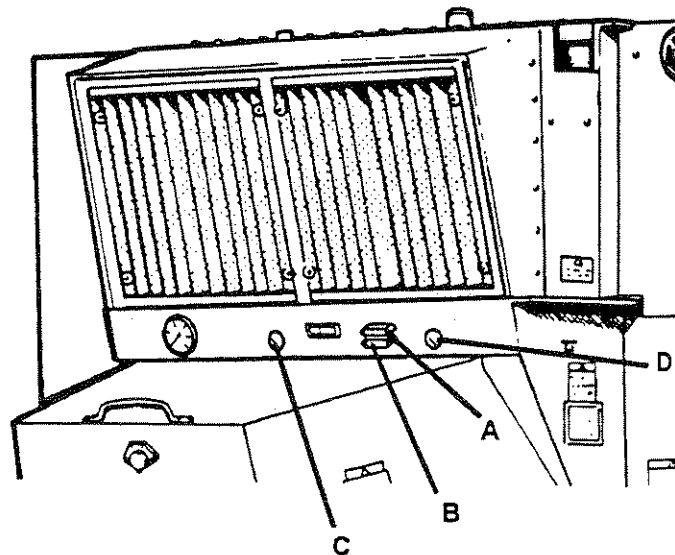

Fig. 21
Two lights on the gauge panel (Fig. 21) alert the operator should problems occur with the condition of the oil. An amber light (A) will illuminate if the oil level becomes low. Flickering of the amber light is normal during operation of the baler due to wave action in the oil reservoir. The red light (B) illuminates when the oil level falls below safe levels or when oil temperature exceeds 220 f.